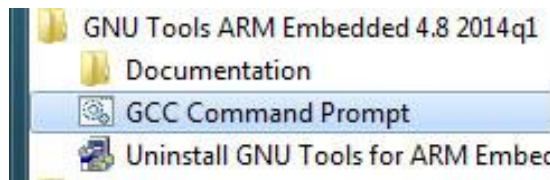

Figure 22 - GCC Command Prompt shortcut
1. Open a GCC Command prompt. When ARM GCC was installed a shortcut was created in the start menu as shown in Figure 22.